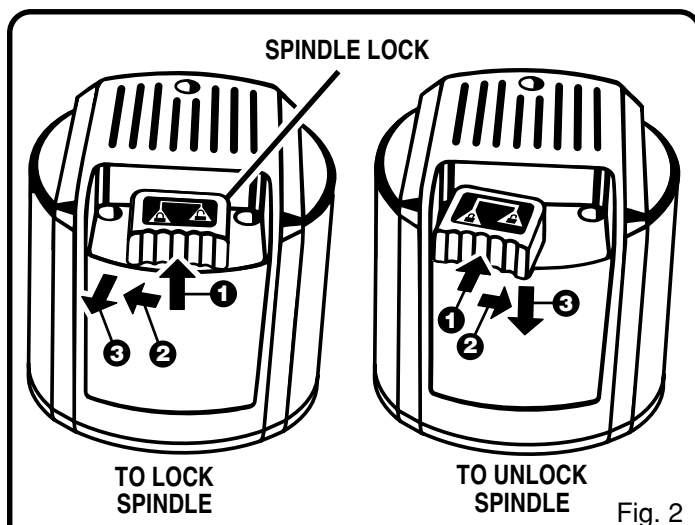
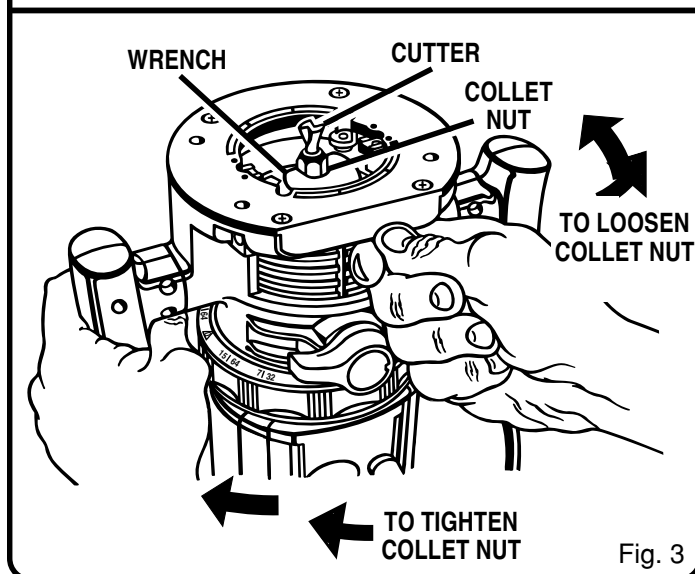

Fig. 2
Fig. 3
See Figures 2 and 3.
2. A spindle lock is located on the top of the end cap. See Figure 2. To activate lock, (1) push spindle lock in, (2) slide into lock position, then (3) release spindle lock.
3. Place your router upside down on table, then turn collet nut with wrench until lock mechanism interlocks. See Figure 3. **NOTE:** Spindle lock is spring loaded and will snap into position when lock mechanism interlocks.
4. Remove cutters by turning collet nut counterclockwise enough to allow cutter to slip easily from collet. See Figure 3. The collet is machined to precision tolerances to fit cutters with 1/4 in. diameter shank size.
6. Tighten the collet nut securely by turning clockwise with the wrench provided. See Figure 3. Put spindle lock back in unlock position. Otherwise, the interlocking mechanism of the spindle lock will not let you turn your router on. To unlock spindle, (1) push spindle lock in, (2) slide into unlock position, then (3) release spindle lock. See Figure 2.